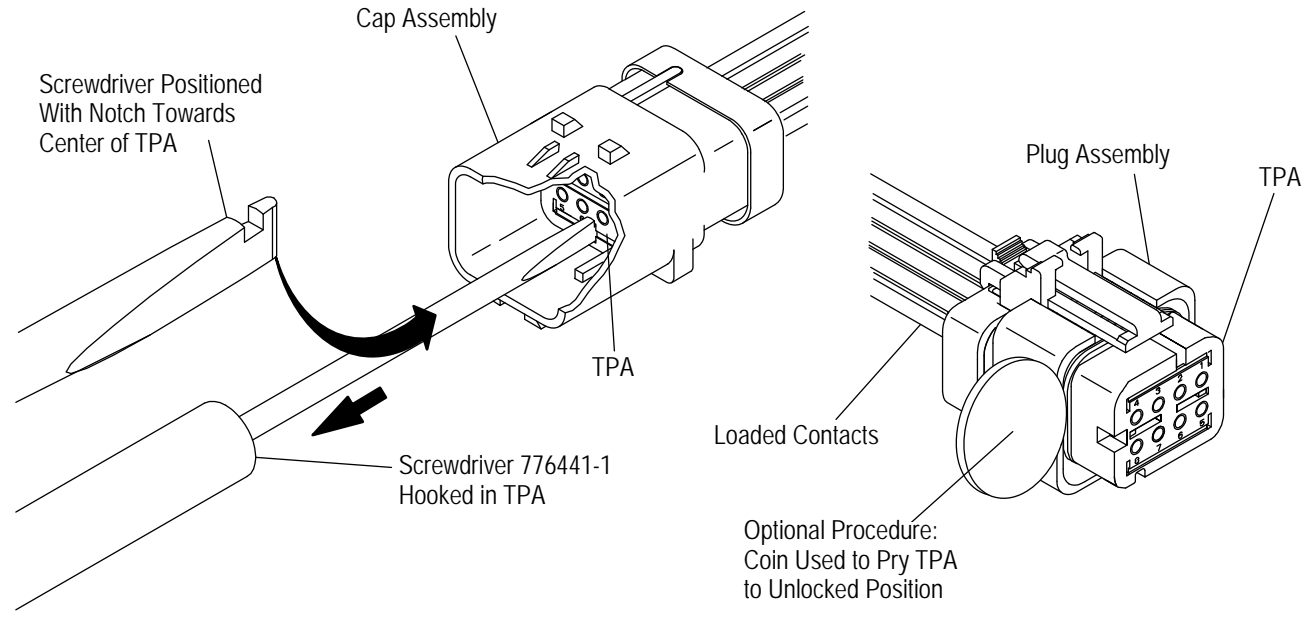

Figure 10
3. Insert contact/TPA Removal Tool or reasonable substitute, into the extraction tool slot in the plug or cap assembly TPA as shown in Figure 10. Orient the removal tool so the notch in the tool is facing the centerline of the TPA. Hook the removal tool firmly against the edge of the slot and pull on the TPA until it is completely removed from the housing assembly. Retain the TPA for use with the connector assembly after the contacts are replaced.
An optional procedure to unlock the plug TPA is to place a coin edge under the edge of the TPA and pry it to an unlocked position. To continue removing the TPA, twist the coin under the edge of the TPA. See Figure 10.